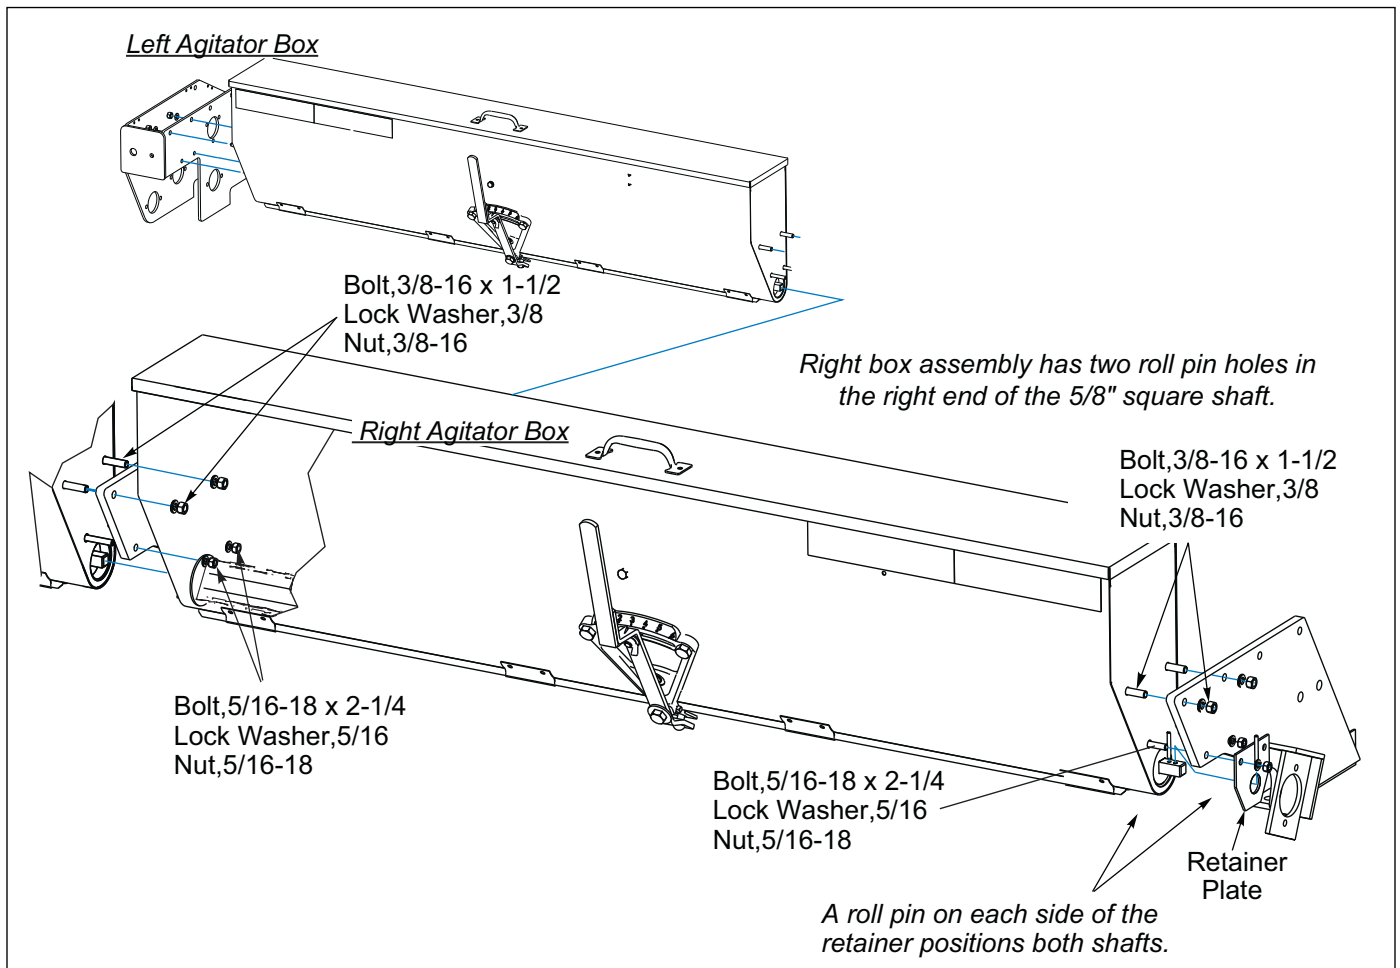

Figure 2-33: Left and Right Agitator Boxes
4. Install the left and right boxes as shown. Left box fastens to transmission with 5/16 x 1-1/2 and 3/8 x 1 Bolts, Lock Washers and Nuts. Left box assembly is the one with one hole in the left end of the 5/8" square shaft. This hole is used only for a shipping wire. **See Figure 2-33.**